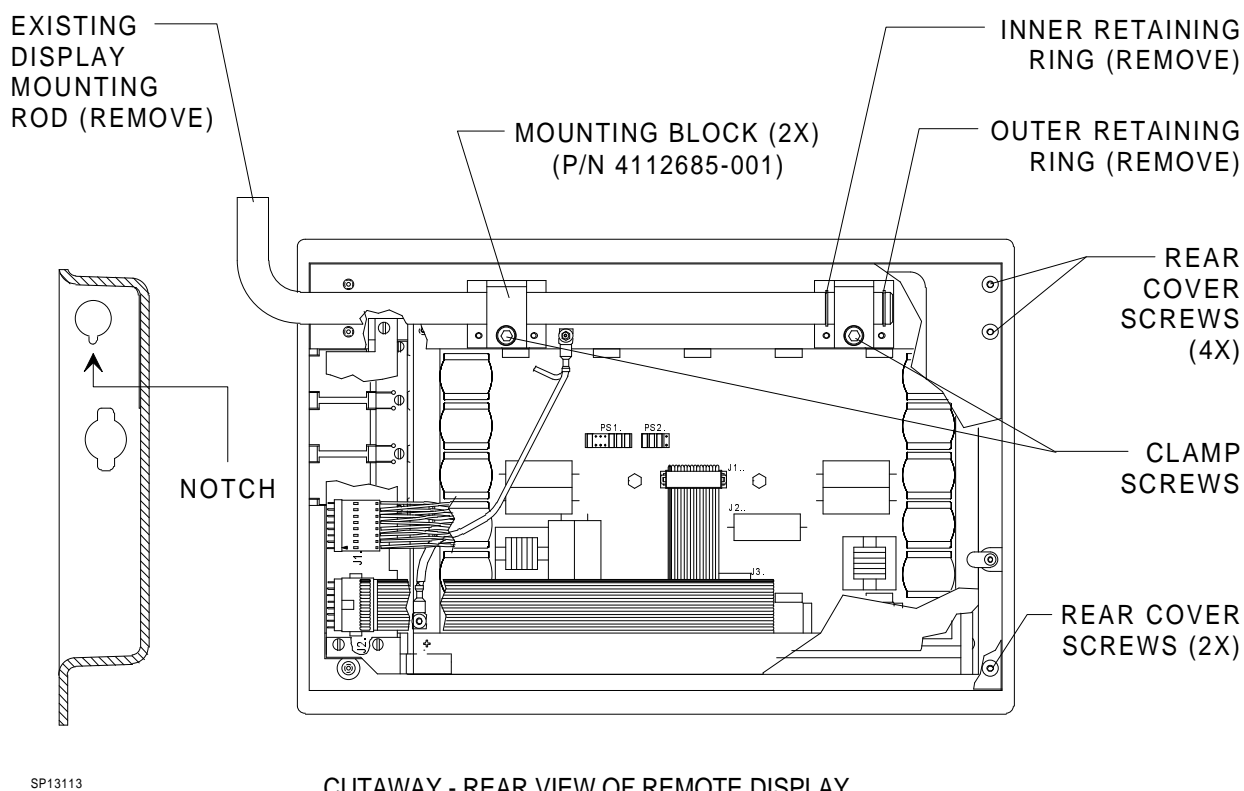

Figure 13: REMOTE DISPLAY DETAILS
55. Loosen the remote display clamp screws. See Figure 13. Remove the outer retaining ring from the remote display mounting rod, and withdraw the rod approx. 3 in. until the end of the rod clears the first clamp. Remove the inner retaining ring and fully withdraw the display mounting rod.
56. Examine the mounting rod hole in the remote display cover. If the hole does not have a notch as shown in Figure 13, carefully cut or file a $\frac{1}{8}$ in. wide notch in the cover that will clear the stop pins on the new Datagrip display mounting rod.